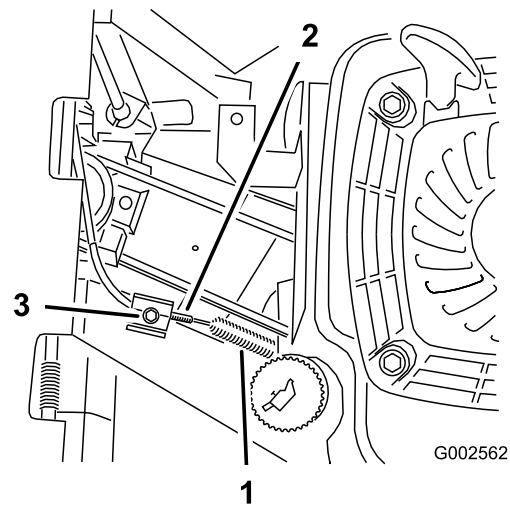

Figure 28
4. Loosen the cable clamp screw until the brake cable conduit slides (Figure 28).
6. Push the cable conduit forward 5/8 inch (1.6 cm) (Figure 28).